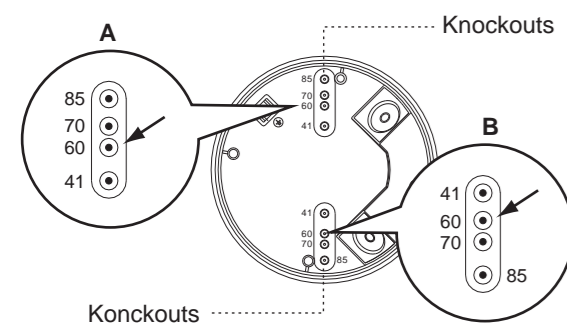

FIG.17-A
3.4.3.1 There are 4 pairs of knockouts with various distances from 41mm to 85mm on the bottom cover of combined junction box JB-41 can be selected for different mounting applications (See FIG.17-A). Select two same figures on both ends for the corresponding distance for fixing (See FIG.17-B).